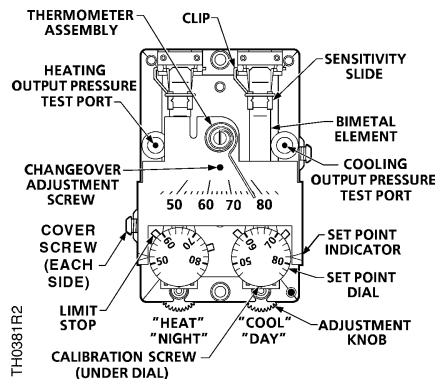

Figure 18. Free Energy Band TH193 HC Thermostat Details.
3. Place a screwdriver in the center of the thermometer assembly (see Figure 18). Carefully rotate the thermometer assembly until the pointer tip indicates the correct room temperature.
The factory thermostat sensitivity setting is approximately 2.5 psi/°F (31 kPa/°C). To change the sensitivity, use a flat-blade screwdriver to carefully move the sensitivity slide (see Figure 18) to the desired position as follows:
2. Use a needle nose pliers to pull the limit stop tab (see Figure 18).
The output pressure test port (see Figure 18) is accessible without removing the thermostat cover through the eighth opening:
4. Moisten the needle and insert the test gauge and needle adapter in the cooling test port (see Figure 18). Read the control pressure.
5. If the control pressure does not read 7 psi to 8 psi (48 kPa to 55 kPa), turn the calibration screw (see Figure 18) using the Cover screw and calibration wrench or a 1/8-inch wrench as follows:
2. Adjust the relief valve using a screwdriver until the control pressure is at the dead band output pressure (see Figure 18):
Use the Dual Scale Pressure Gauge and Pressure Tap Needle to measure the control pressure at the output test port (see Figure 18). The output pressure test port is accessible without removing the thermostat cover through the eighth opening from the top as follows: